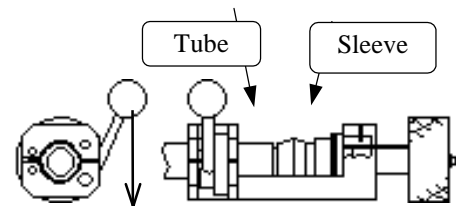

Figure 36. Tube and sleeve setting
- Place the tube in the tube holder. Let a tube end come into contact with the sleeve tip, and engage the hook while the clamp lever is in upper position; then push the clamp lever down to clamp the tube (Figure 36).